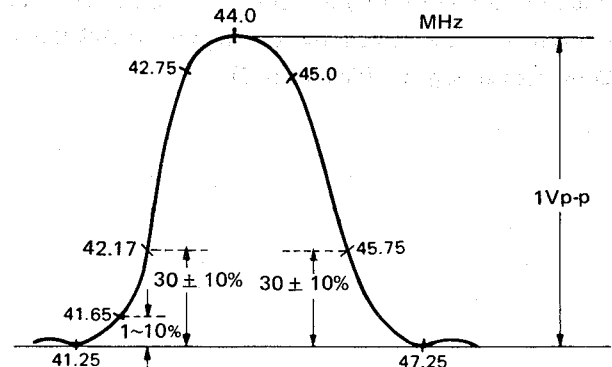

Figure 11
3. Adjust tuner converter coil to achieve a waveform as that of figure 11, with maximum amplitude at 44 MHz.